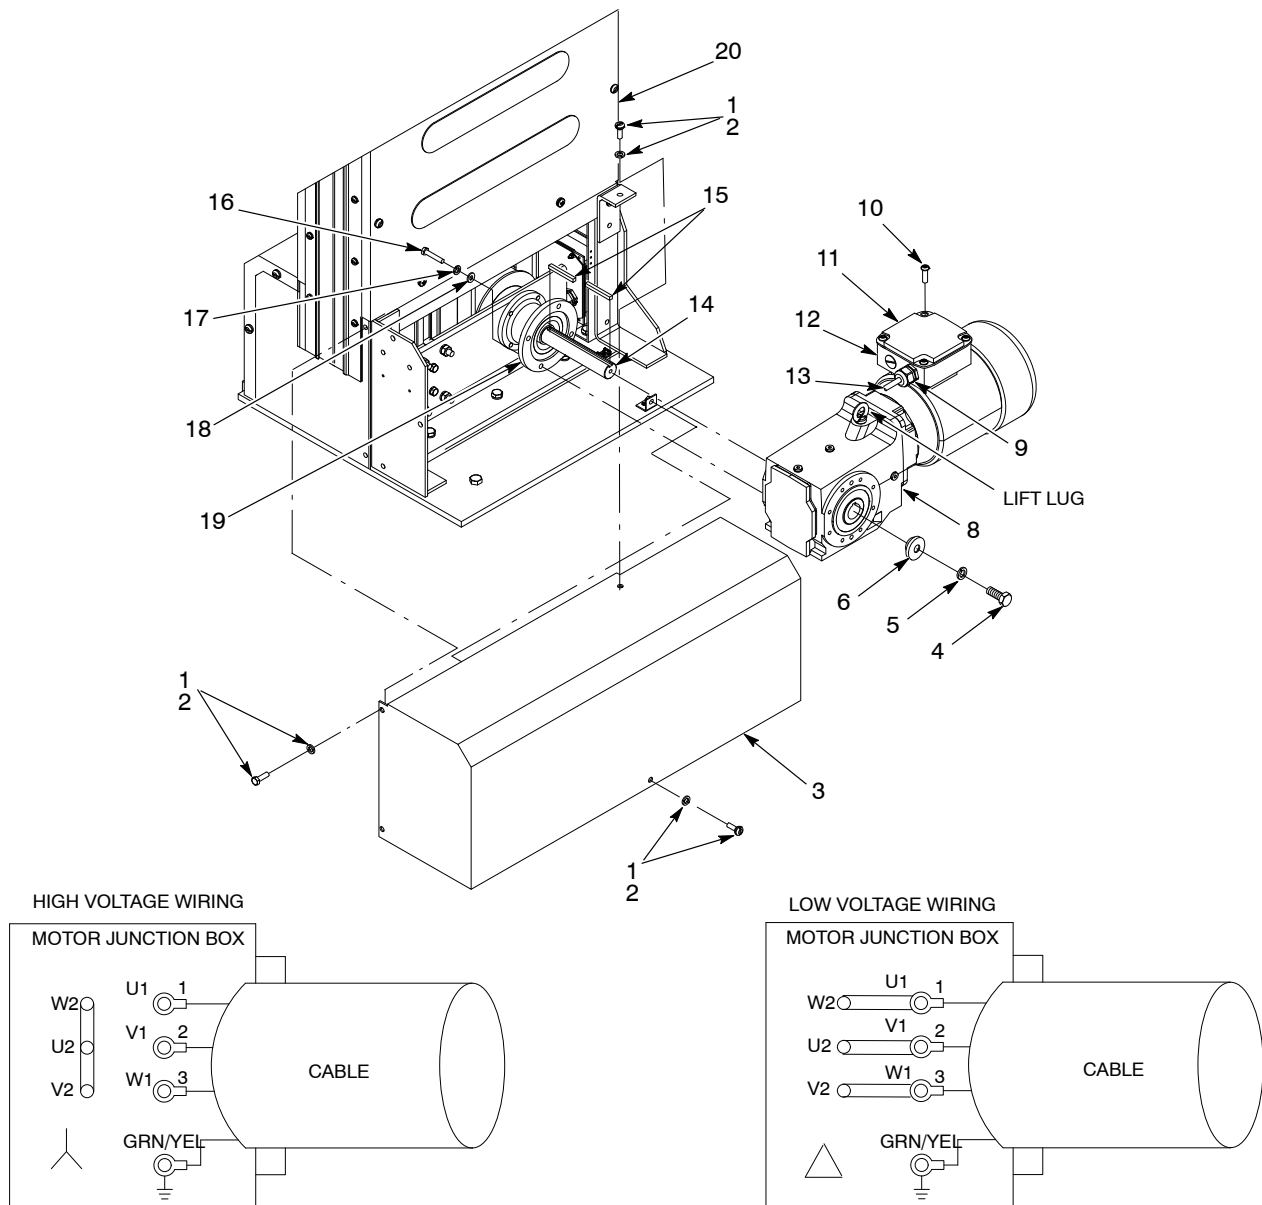

Figure 19 Replacing the Gear Motor Assembly
1. See Figure19. Remove the screws (1) and lock washers (2) securing the cover (3) to the reciprocator (20).
- a. Remove the screws (10) securing the cover (11) to the gear motor junction box (12).
- b. Loosen the cable strain relief (9).
- c. Disconnect the cable wires in the junction box (12). Carefully pull the cable (13) out of the junction box (12).
3. Remove the screw (4), lock washer (5), and washer (6) securing the gear motor (8) to the driver assembly shaft (14).
4. Remove the screws (16), lock washers (17), and washers (18) securing the gear motor (8) to the gear motor mount (19).
5. Remove the gear motor (8) from the shaft (14). Remove the shaft keys (15) from the driver assembly shaft (14).
1. See Figure19. Perform the following:
- a. Install the shaft keys (15) onto the driver assembly shaft (14) as shown.
- b. Make sure that the keyway on the gear motor (8) is aligned to the shaft keys (15) on the shaft (14). Slide the gear motor onto the shaft. Make sure that there are no gaps between the face of the gear motor (8) and the gear motor mount (19).
- c. Secure the gear motor (8) to the gear motor mount (19) using the washers (18), lock washers (17), and screws (16). Tighten the screws to 25 N•m (18.5 ft-lb).
- d. Secure the driver assembly shaft (14) to the gear motor (8) using the washer (6), lock washer (5), and screw (4). Tighten the screw to 25 N•m (18.5 ft-lb).
- Insert the cable (13) into the cable strain relief (9). Connect the cable wires to the junction box (12) as shown.
- Tighten the cable strain relief (9).
- Install the cover (11) to the junction box (12) using the screws (10). Tighten the screws securely.